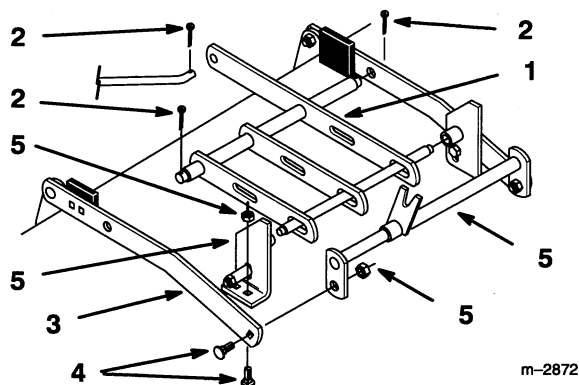

**Figure 1**
4. Remove discharge chute from the mower (Fig. 1).
5. Remove belt cover from right side (Fig. 1).